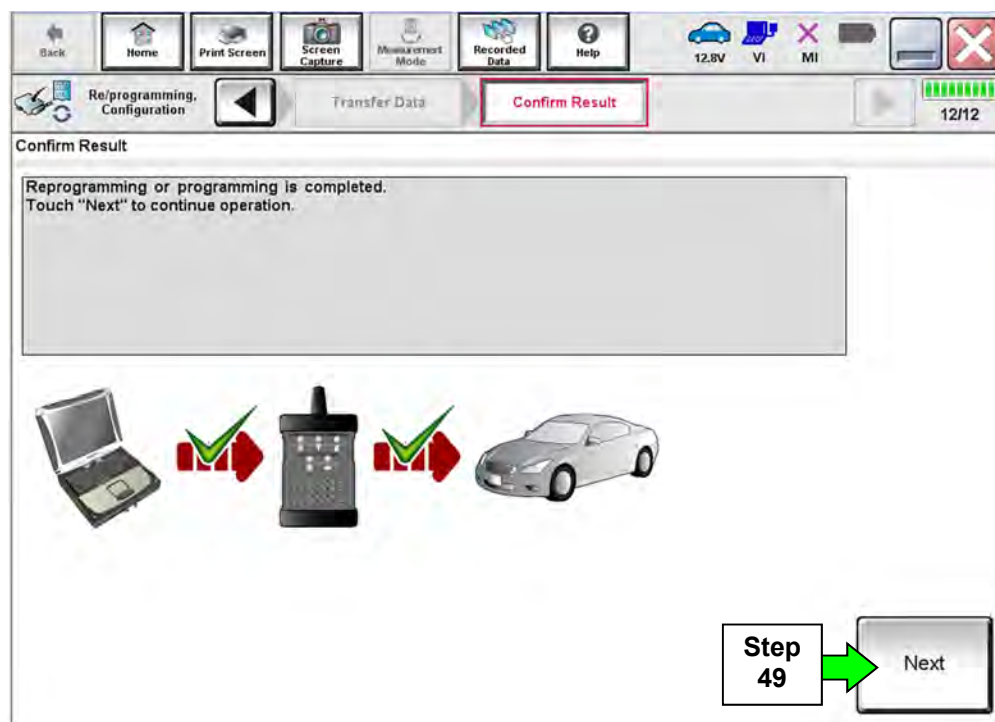

Figure 29
47. When the screen in Figure 29 displays, reprogramming is complete.
NOTE: If the screen in Figure 29 does not display (indicating that reprogramming did not complete), refer to ICC/ADAS recovery on the next page.